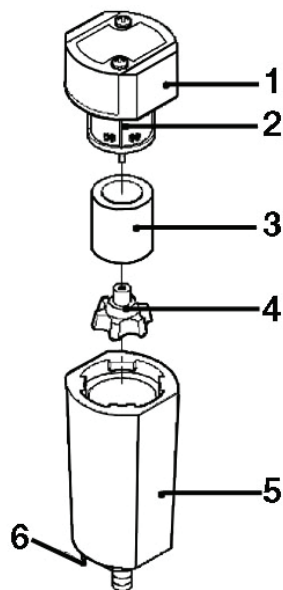

Fig. 13: Filter disassembly
3. Unscrew the bleed screw (Fig. 13, Pos. 6) slowly to ensure that the filter is depressurized.
4. Turn the filter bowl (Fig. 13, Pos. 5) one-eighth of a turn counter-clockwise and pull the filter bowl down from the filter housing (Fig. 13, Pos. 1).
5. Unscrew the blue knob (Fig. 13, Pos. 4).
6. Remove the old filter element (Fig. 13, Pos. 3).
7. Clean the sieve (Fig. 13, Pos. 2), filter bowl, and the filter housing, if necessary.